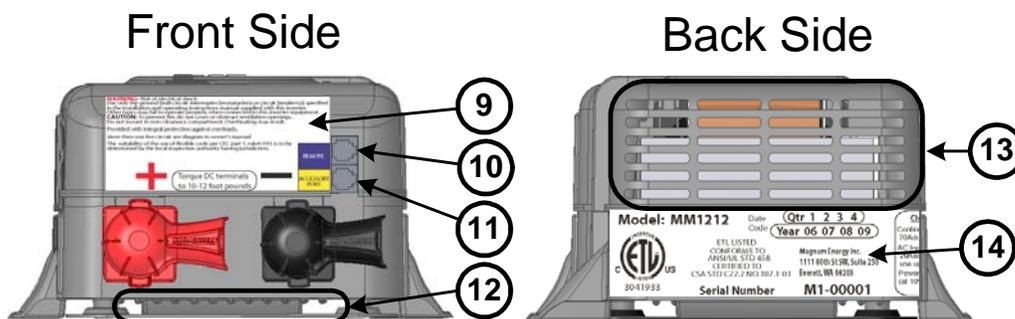

Figure 3, Front and Back Side Features
Ventilated - In order for the inverter to provide full output power and avoid overtemperature fault conditions; do not cover or block the inverters ventilation openings or install this inverter in an area with limited airflow. Allow as much clearance around the inverters intake and exhaust ventilation openings as possible, see items 12 and 13 in figure 3. At the minimum, an airspace clearance of 6” (15 cm) at the front and back and 3” (7.5 cm) everywhere else to provide adequate ventilation.